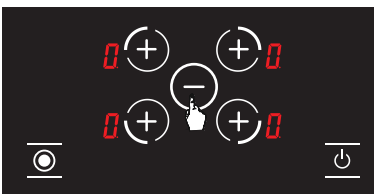

Figure 27
- Press the key again **-**. (See Fig. 27.) This is required immediately after step 3. The child lock is permanently deactivated. In other words, the child lock will still be deactivated, even when the device is turned off and on again.